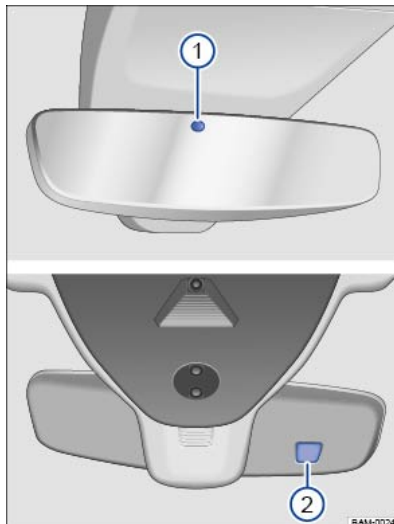

Fig. 104 On the windscreen: automatic anti-dazzle interior mirror.
When the ignition is turned on, the sensors measure the incident light from the rear ⇒ Fig. 104 ① and from the front ②.